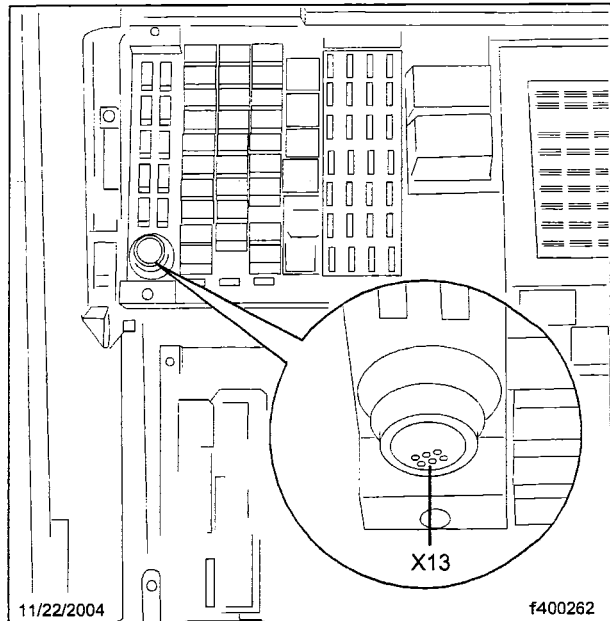

Fig. 12, Electrical Panel (Inset: Diagnostic Socket X13)
3. Connect the Star Diagnosis to the diagnostic socket (X13). See Fig. 12.